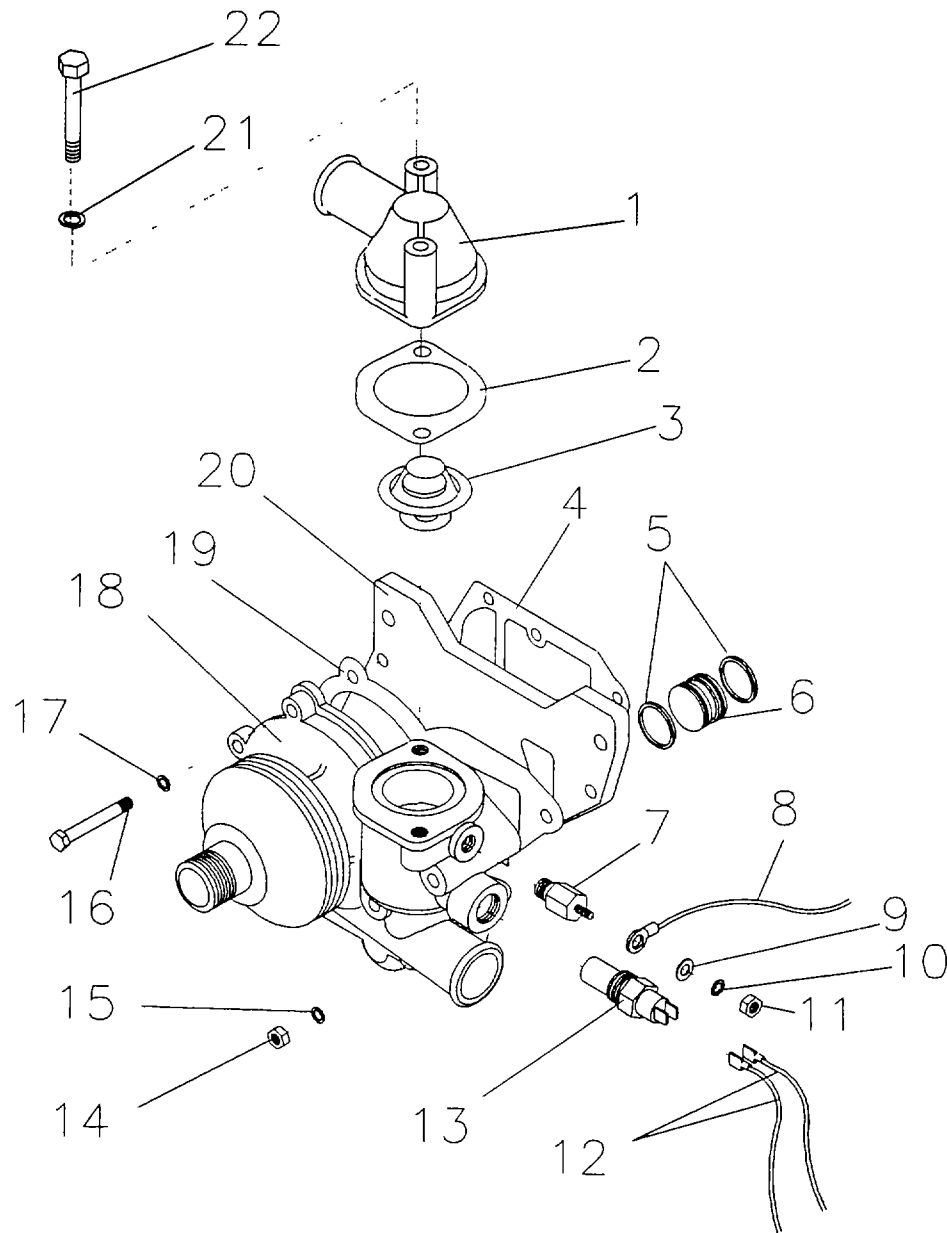

Figure 5-10. Water Pump Assembly.
a. Removal. Refer to figure 5-10
- 1) Remove screws (22), flatwashers (21), thermostat housing cover (1), thermostat gasket (2) and thermostat (3) Refer to paragraph 4.22
- 2) Remove nut (11), lockwasher (10) and flatwasher (9).
- 3) Tag and remove wires (8) and (12).
- 4) Remove engine temperature sending unit (7) and engine high temperature cutoff switch (13).
- 5) Remove five screws (16), two stud nuts (14) and flatwashers (15,17) from water pump (18) Remove water pump (18), gasket (19), mounting plate (20) and gasket (4).
- 6) Remove sleeve (6) and packings, preformed (5) Discard packings, preformed. Retain sleeve.
b. Installation. Refer to figure 5-10.
- 1) Install packings, preformed (5), and sleeve (6) into back of water pump (18)
- 2) Install gasket (4), mounting plate (20), gasket (19), water pump (18), flatwashers (17), and screws (16). Torque to 15.5 ft. lb /20 Nm.
- 3) Install stud nuts (14) and flatwashers (15) and torque to 12 ft. lb./16 Nm
- 4) Install engine high temperature cutoff switch (13) and engine temperature sending unit (7).
- 5) Install wires (8) and (12)
- 6) Install flatwasher (9), lockwasher (10) and nut (11)
- 7) Install thermostat (3), thermostat gasket (2) and thermostat housing cover (1), flatwasher (21) and screws (22). Refer to paragraph 4.22.